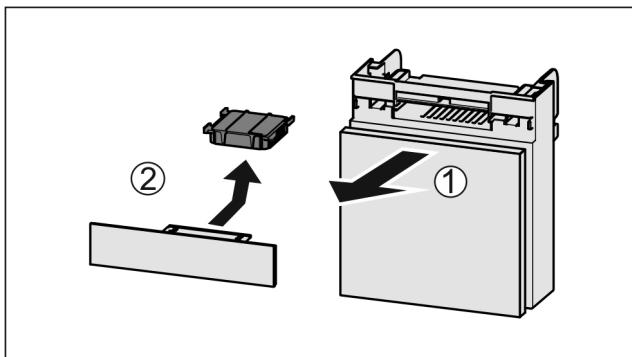

Fig. 162
- Pull out the compartment Fig. 162 (1).
- Remove the carbon filter Fig. 162 (2).